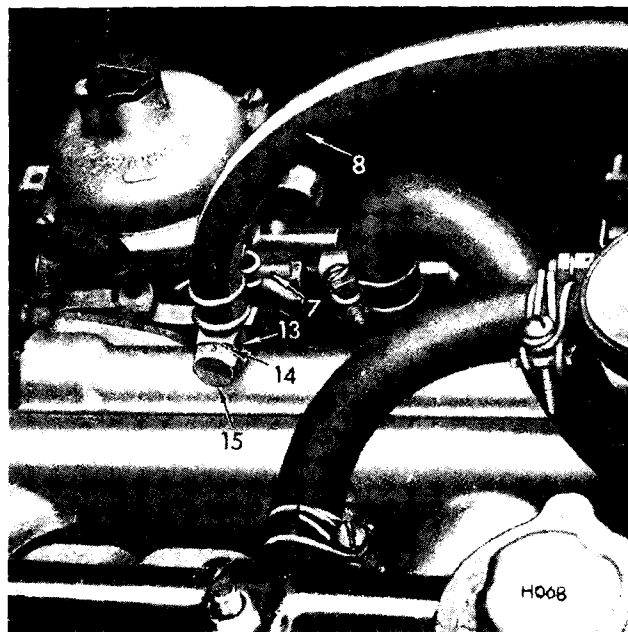

Fig. 30. Manifold adaptor
Drill the inlet manifold approximately $2\frac{1}{2}$ " (64.0 mm.) from the emission valve take-off adaptor (Fig. 30), using a size 'R' drill. Tap $\frac{1}{8}$ " x 27 N.P.T. to suit the adaptor (13) supplied in the kit. Clean out all swarf. Referring to Fig. 30, screw in the blanking plug (15) and copper washer (14) and assemble the adaptor to the manifold.